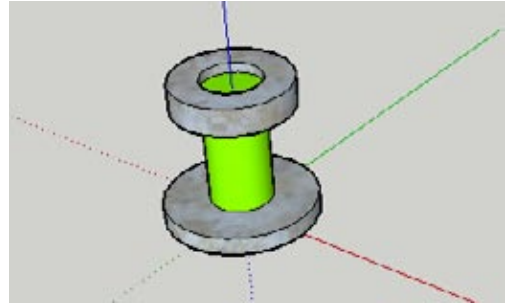

Figure 7-23
1. Create a model of a dresser handle, similar to the one shown in Figure 7-23. Orient it so that it is vertical (start the model in the red-green plane), and place the handle so that the origin coincides with the center of the lowest face. This is the point by which the handle will be dragged and placed into the dresser model. Pay attention to the dimensions while creating the handle, so that it is approximately the right size. (The diameter of the handle base should be about 4 inches.)